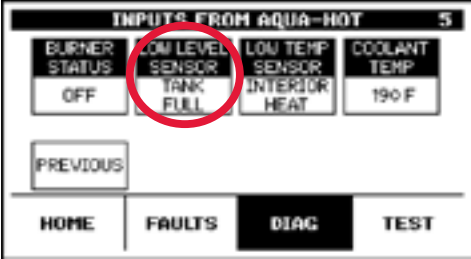

Figure 80
7. Pay attention to the "LOW LEVEL SENSOR" item on this page. See Figure 80.